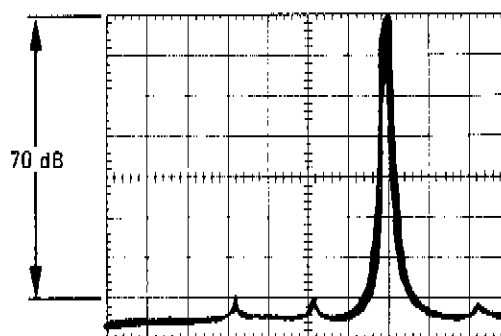

Figure A5-35. Waveform at A3A10TP3 Displayed on Spectrum Analyzer
- e. Connect 8553B Spectrum Analyzer to A3A10TP3 using 1121A probe. Center the 893 KHz signal on the Spectrum Analyzer screen as shown in Figure A5-35.
If the signals displayed are  $\geq 70$  dB down from 993 kHz signal as shown in Figure A5-35, no adjustment of "BALANCE" or "992 KHz PEAK" is necessary.